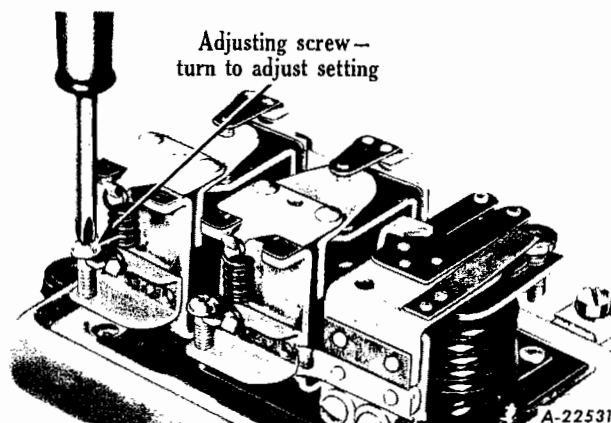
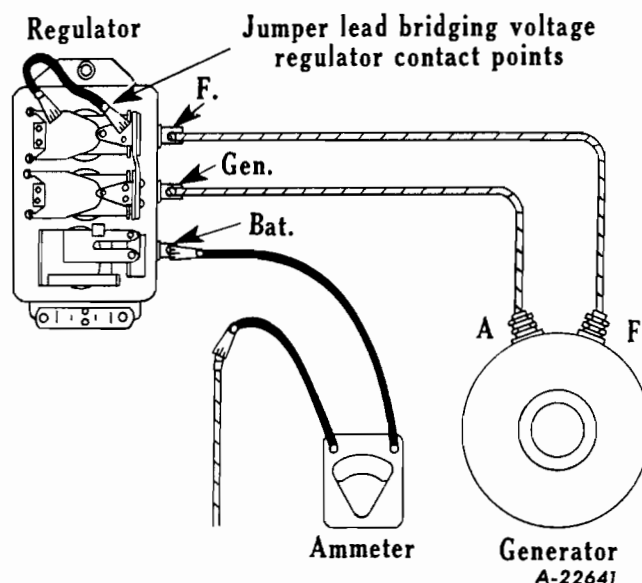

Fig. 11 - Adjusting voltage regulator setting.
Fig. 13 - Ammeter and jumper lead connections for checking current regulator setting by the jumper lead method.
AIR GAP--To check air gap, push armature down until the contact points are just touching and then measure air gap (Fig. 13). Adjust by loosening the contact mounting screws and raising or lowering the contact bracket as required. Be sure the points are lined up, and tighten screws after adjustment.
To adjust voltage setting, turn adjusting screw (Fig. 11). Turn screw clockwise to increase voltage setting and counterclockwise to decrease voltage setting.
With ammeter connected as in Fig. 13 and regulator at operating temperature, operate generator at 50 per cent above rated output speed, and note current setting. If necessary to adjust, remove cover and adjust in same manner as voltage regulator unit (Fig. 11) by turning adjusting screw clockwise to increase current setting or counterclockwise to decrease setting. See CAUTION note under Voltage Setting of Voltage Regulator. If unit is badly out of adjustment readjust as explained under REGULATOR SPRING REPLACEMENT.
2. JUMPER LEAD METHOD--Remove the regulator cover and connect a jumper lead across the voltage regulator contact points (Fig. 13). Turn on lights and accessories to prevent high voltage during the test. With generator operating 50 percent above rated output speed and with regulator at operating temperature, note the current setting.